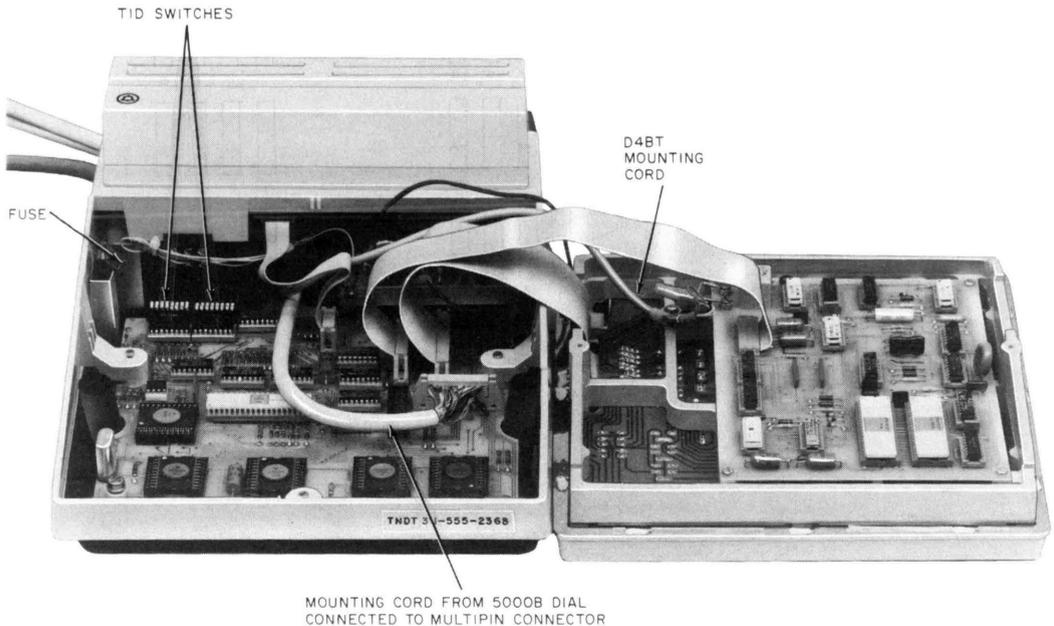

Fig. 3—5000A Transaction III Terminal Set With Upper Housing and Chassis Laid Aside—5000B Dial Connected
- (1) Invert set and loosen the two captive screws holding the upper housing and chassis.
- (2) Lay the upper housing and chassis to the right, as shown by Fig. 3 without disconnecting any cables.
3.04 The Terminal Identification (TID) for the terminal being installed (number is on the service order) should now be set on the terminal identification switches (Fig. 3). The 4 digits of the TID are set by closing the appropriate rocker-switches in each digit group which have
- (1) Hold the lower housing up on its side and feed the mounting cord of the 5000B dial through the cord entrance hole in the base pan.
- (2) Plug multipin connector of dial mounting cord into receptacle on main printed wiring board (PWB) Fig. 3. (Cord should extend toward